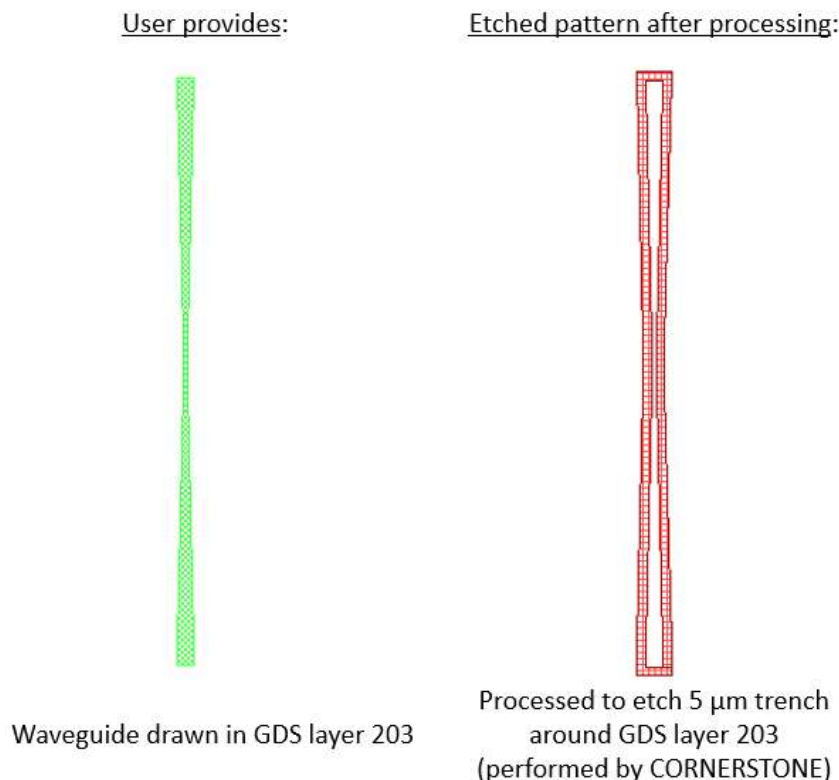

Figure 1 - Description of GDS Layer 203 processing.
- Silicon Nitride Etch 1: 300 nm full etch to BOX – GDS Layer 203 (Light field): Drawn objects on this layer will be protected from the silicon nitride etch. Users should draw the waveguides and any other features to remain following the full silicon nitride etching. During fracturing processing, this will be translated into a pattern that defines 5 µm wide trenches on either side of the waveguides drawn in GDS layer 203 (see Figure 1).